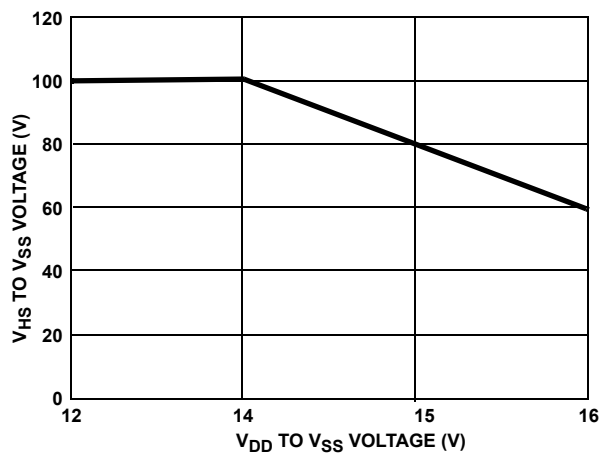

FIGURE 16. V_{HS} VOLTAGE vs V_{DD} VOLTAGE
- The HIP2100 is capable of derated operation at supply voltages exceeding 14V. Figure 16 on page 9 shows the high-side voltage derating curve for this mode of operation.